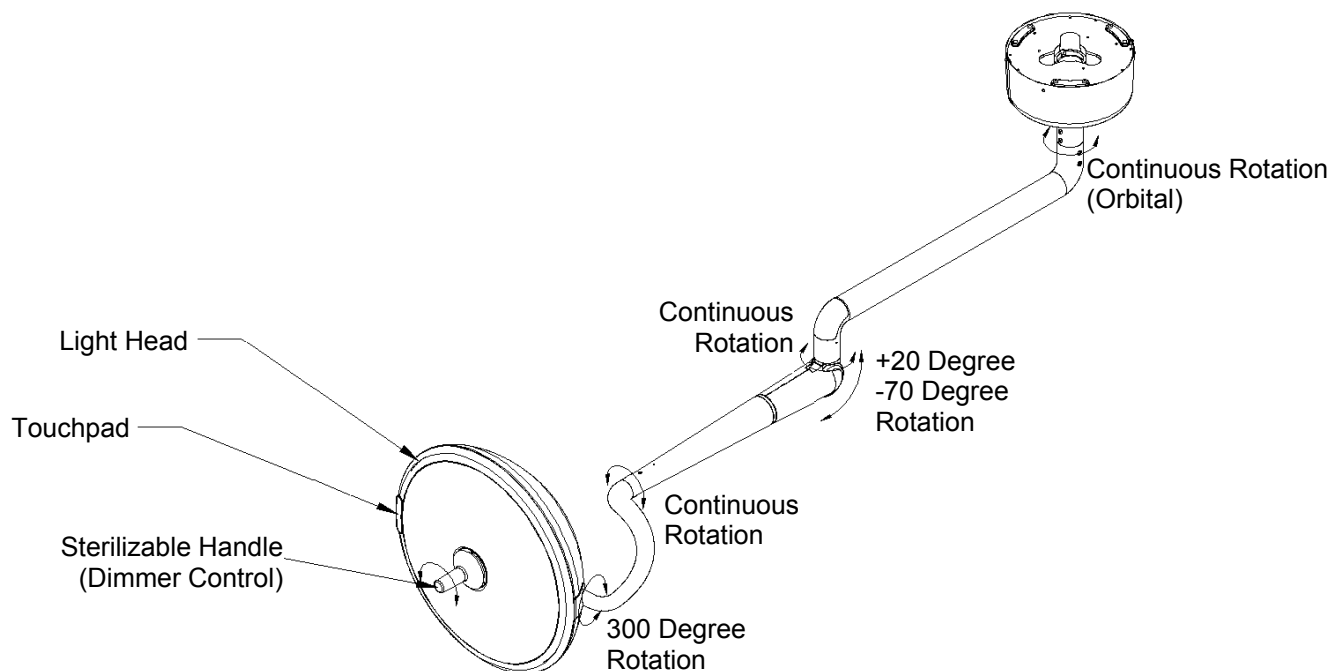

Figure 17: Head and Arm Movement
- To position the light head and arm, firmly grasp the sterilizable handle and move the light head or arm to the desired location. (See Figure 17 and 18 for arm and head movements).